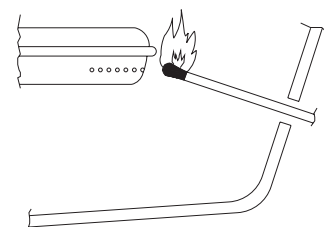

FIGURE 15
6. If a burner does not light, turn OFF all gas and refer to the Troubleshooting section of this manual. FIGURE 15.